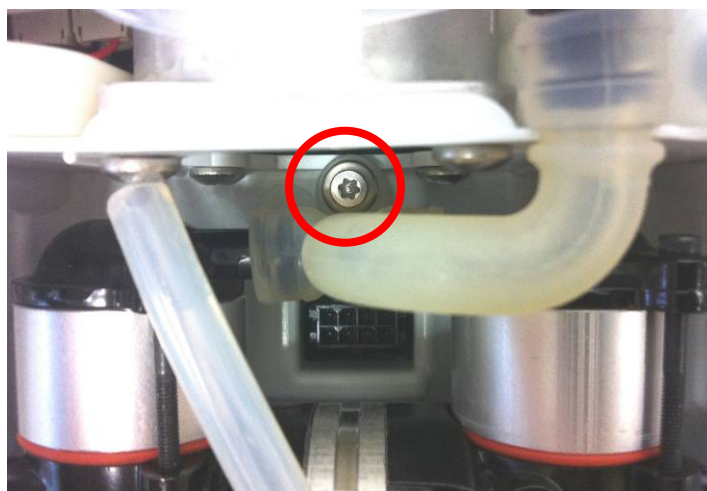

Figure 13: Dual feed tube screw and washer
6. Unscrew the screw connecting the other end of the dual feed tube to the chassis and remove the screw and washer (Figure 13).
4. Reinstall the screw and washer that attach the dual feed tube to the chassis, tightening the screw just enough to connect the tube to the chassis (Figure 13). *Over tightening this screw will damage the tube.*